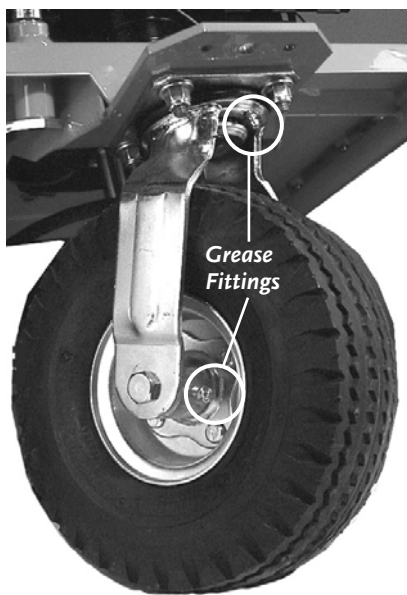

Figure 11
1. There are two (2) Grease Fittings on the Swivel Wheel: one (1) at the top front of the Wheel Bracket, and one (1) toward the center of the Wheel (**Figure 11**). Grease these two (2) Fittings with #2 lithium grease to keep the Wheel spinning freely at least every 25 hours of operation per the Maintenance Checklist on page 18.